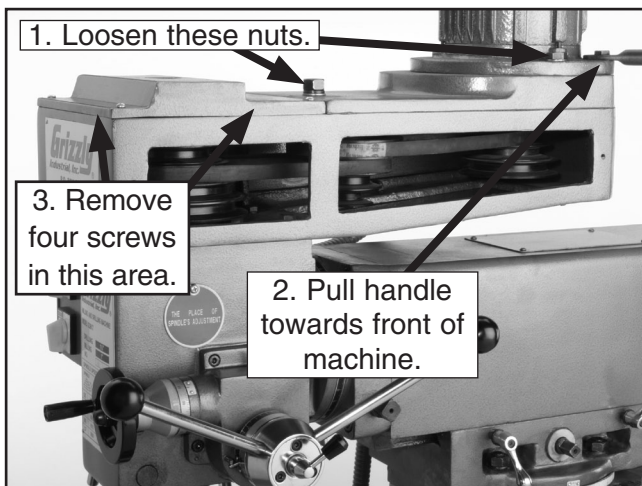

Figure 59. Vertical spindle access area.
3. Remove the four Phillips head screws on the top cover (See **Figure 59**), and remove the cover.